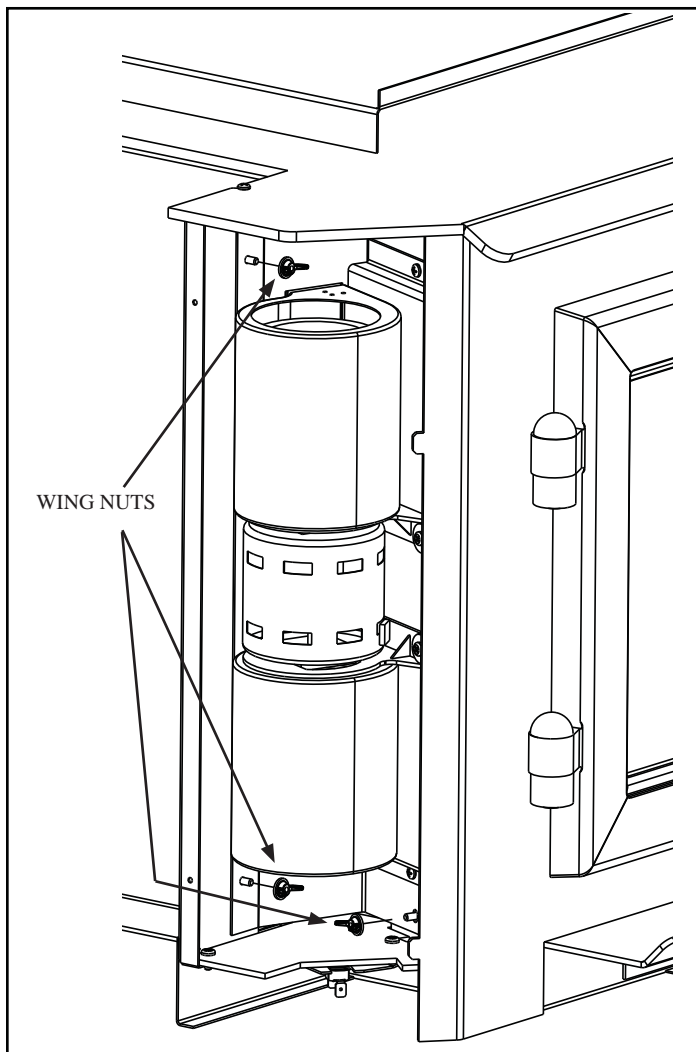

Figure 22.1
4. Remove three wing nuts as shown. **Figure 22.1**